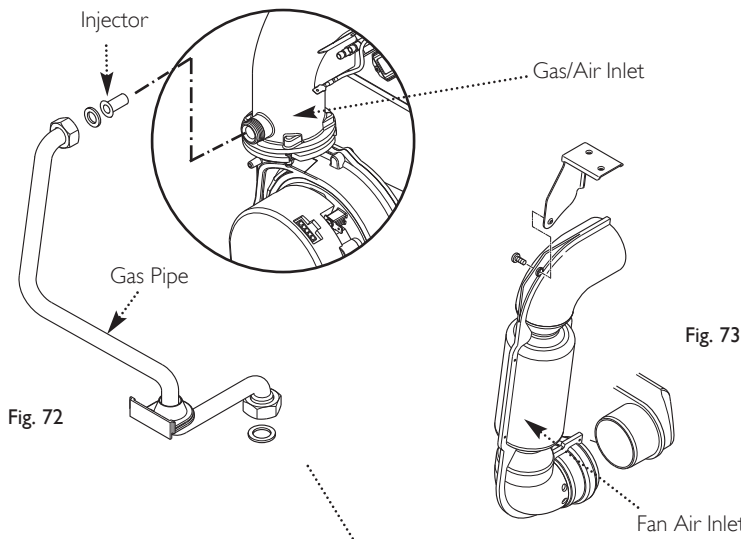

Fig. 72
6. Undo the nut on the gas pipe at the gas/air inlet (Fig. 72) and the gas valve. Remove the pipe, taking care not to lose the sealing washers. Also remove the injector.